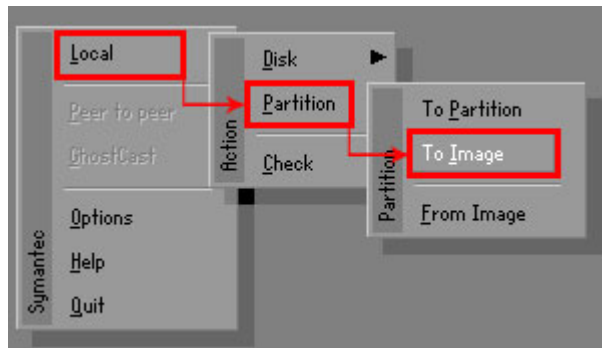

Figure A-13: Symantec Ghost Path
**Step 4:** Use mouse to navigate to the option shown below (Figure A-13).